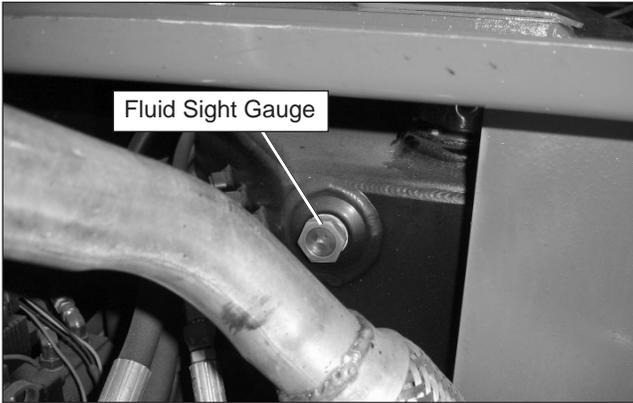

Figure 7.6 – Fluid Level Indicator
3. Visually check to make sure the fluid is visible in the sight glass (refer to Figure 7.6).